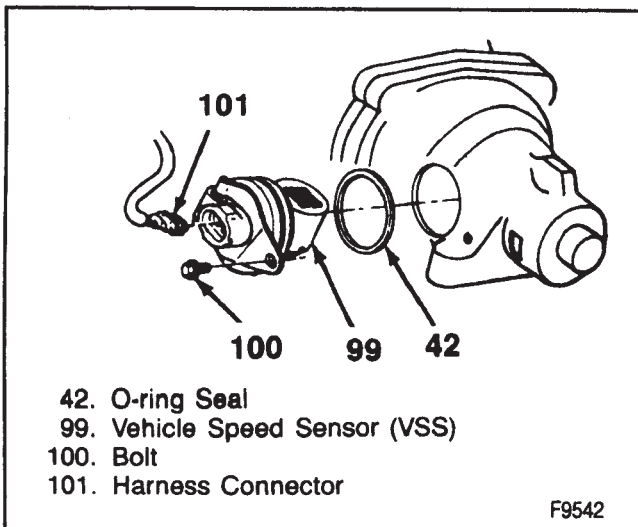

Figure 81—Vehicle Speed Sensor
- Bolts (63) to 11 N.m (97 in. lbs.).
- 13. Transmission oil pan (73).
- 14. Transmission pan gasket (72).
- 15. Transmission oil pan to case bolts (74).
- Bolts (63) 11 N.m (97 in. lbs.).
**Remove or Disconnect (Figure 81)**